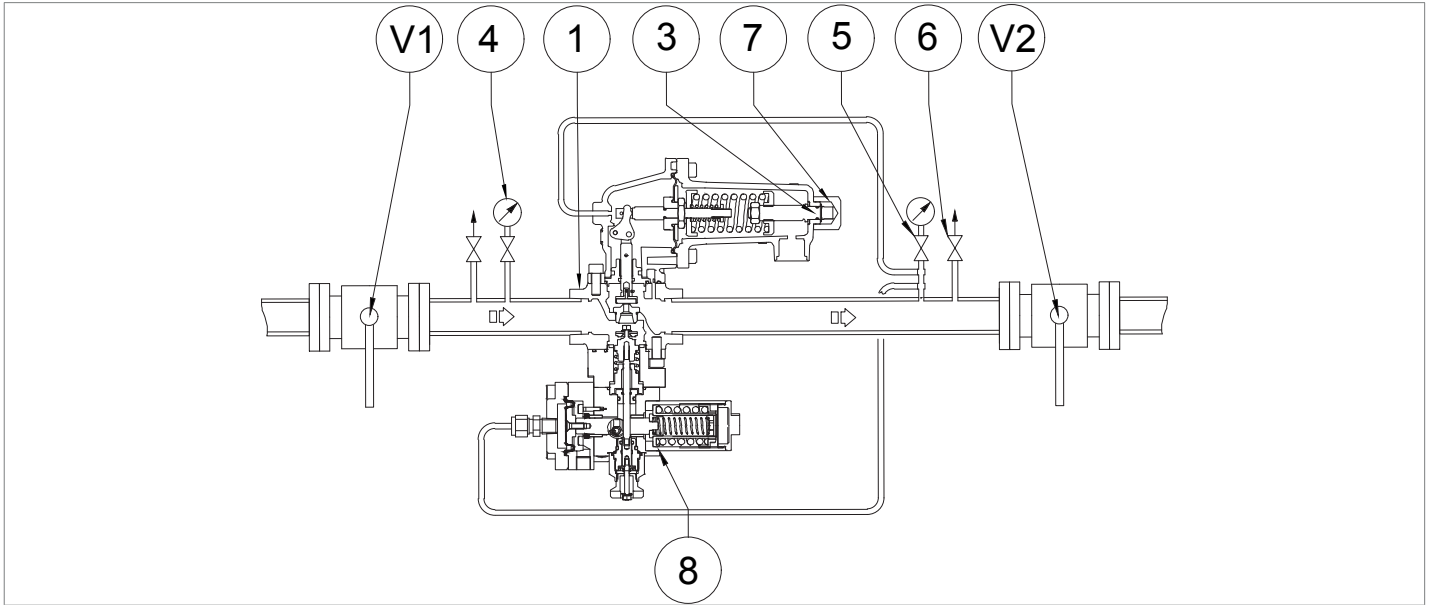
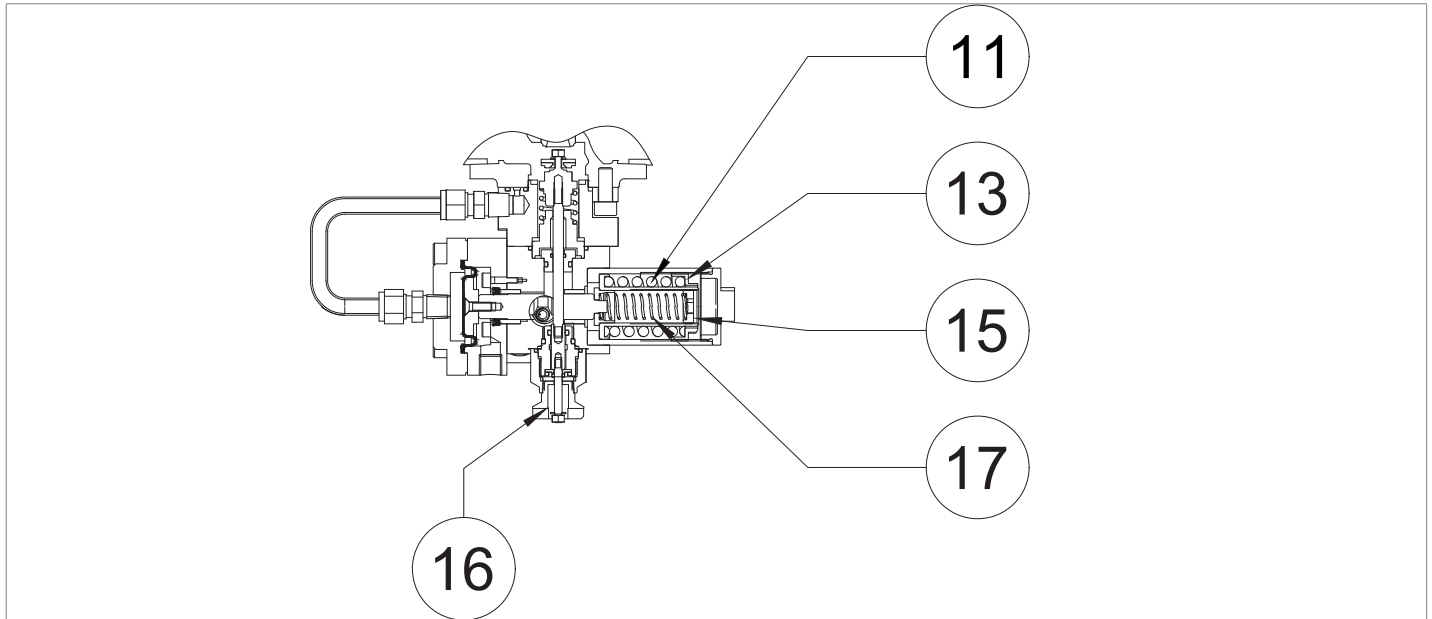

Fig. 8.24. Built-in regulator and slam-shut valve with external sensing line
Fig. 8.28. Regulator, in-line monitor and built-in slam-shut valve
1	<p>Increase the downstream pressure to the slam-shut valve's tripping value by connecting an external pressure source to the drain valve (Fig. 8.24 ref. 6) placed on the downstream pipeline, making sure to open an additional drain cock.</p> <p>NOTICE</p> <p>Check the pressure by referring to the pressure gauge (Fig. 8.24, ref. 5) placed downstream of the main regulator.</p> <p>If the slam-shut valve:</p> <ul style="list-style-type: none"> <li>trips before the expected pressure value: tighten (clockwise) the adjustment ring nut (13) so as to compress the spring (11) more;</li> <li>does not trip at the expected pressure value: unscrew (counterclockwise) the adjustment ring nut (13), so as to relieve the spring (11).</li> </ul>
2	Decrease the pressure of the downstream section by opening the drain cock (Fig. 8.24, ref. 6) to bring it up to the calibration value of the main regulator.
3	Close the additional drain cock (Fig. 8.24, ref. 6).
6	Disconnect the external pressure source from the drain cock (Fig. 8.24, ref. 5).
1	Partially open the drain cock (Fig. 8.24, ref. 6) in the atmosphere and keep it open for the next steps.
2	Turn the adjustment ring nut counterclockwise Fig. 8.24, ref. 3) of the regulator to decrease the downstream pressure (Pd) to the minimum pressure required for the slam-shut valve to trip.  <div style="background-color: #0056b3; color: white; padding: 2px;">NOTICE</div> Check the value of the slam-shut valve tripping pressure indicated by the downstream pressure gauge (Fig. 8.24, ref. 5).
3	If the slam-shut valve: <ul style="list-style-type: none"> <li>trips before the expected pressure value: unscrew (counterclockwise direction) the adjustment ring nut (Fig. 8.24, ref. 3) so as to unload the spring (Fig. 8.28, ref. 17);</li> <li>does not trip at the expected pressure value: screw (clockwise) the adjustment ring nut (Fig. 8.24, ref. 3), so as to compress the spring more (Fig. 8.28, ref. 17).</li> </ul>
4	After verifying that the slam-shut valve trips at the preset value, act as follows: <ol style="list-style-type: none"> <li>Close the air vent valve (Fig. 8.24, ref. 6)</li> <li>Slowly open the upstream shut-off valve (V1) until the downstream pressure value (Pd) reaches the regulator's set value, referring to the downstream pressure gauge (Fig. 8.24, ref. 5)</li> <li>Close the upstream shut-off valve (V1)</li> <li>Slowly and partially open the air vent valve (Fig. 8.24, ref. 6) to decrease the downstream pressure by referring to the downstream pressure gauge (Fig. 8.24, ref. 5) until the minimum pressure trip value is reached</li> <li>Verify the correct calibration of the minimum spring by repeating steps 2-3-4 at least three times</li> <li>Perform calibration of the main regulator referring to par. 8.5</li> </ol>
5	Open the slam-shut valve by acting on the reset knob (Fig. 8.28, ref. 16) and keep it open manually.
6	Turn the adjustment screw clockwise (Fig. 8.24, ref. 3) to increase the downstream pressure to the set value of the regulator.
7	Arm the slam-shut valve by acting on the reset knob (Fig. 8.28, ref. 16).
8	Close the drain cock (Fig. 8.24, ref. 6).